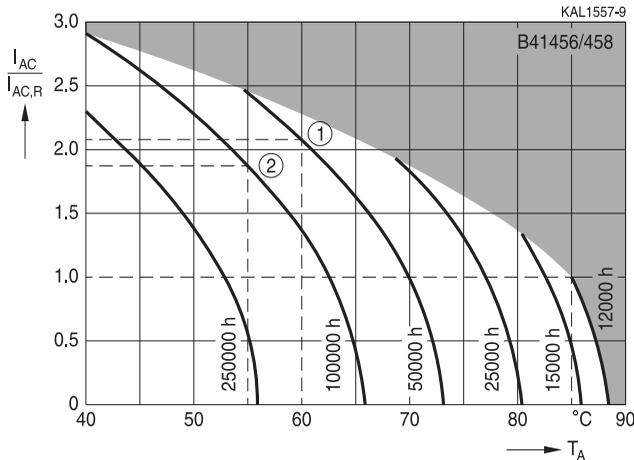

Figure 17
50 000 h (see ① figure 17).
The useful life curve that coincides with the respective coordinates 1.9 on the Y-axis (ripple current factor) and 55 °C on the X-axis (ambient temperature) indicates a useful life of 100000 h (see ② figure 17). The required useful life is thus achieved.